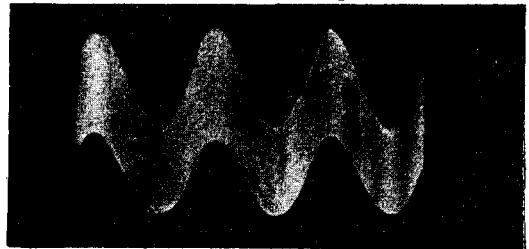

Figure 6-1. Waveform at AUDIO OUT Jack with AUDIO SELECTOR at VOR
a. VOR. Appears as a wide sine wave band at 30 cps. See figure 6-1.